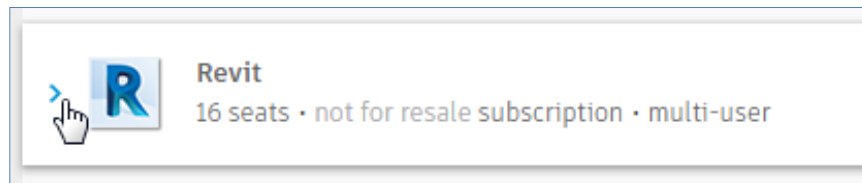

FIGURE 3: THE **EXCHANGE APPS** BUTTON
2. Scroll down to the Revit section and expand it, as shown in Figure 3.